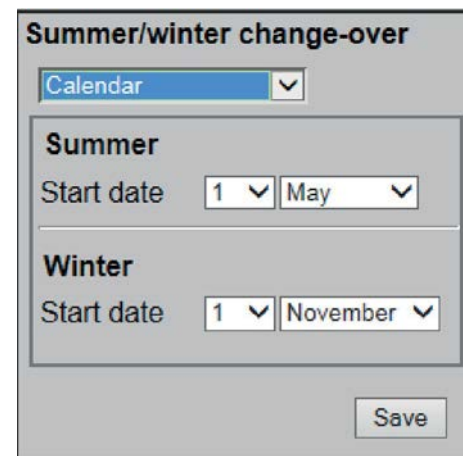

Fig. 38: Calendar
- ▶ If you choose 'Calendar' as the type of control, you also have to set the summer start date and the winter start date (Fig. 38).